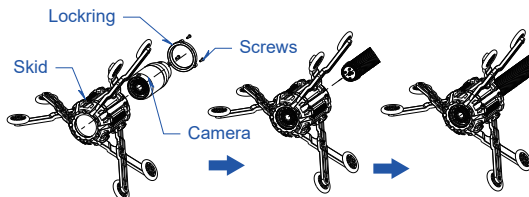

Figure 14. 120 Roller skid
- 2)Install 120 Roller Skid.(See Figure 14)